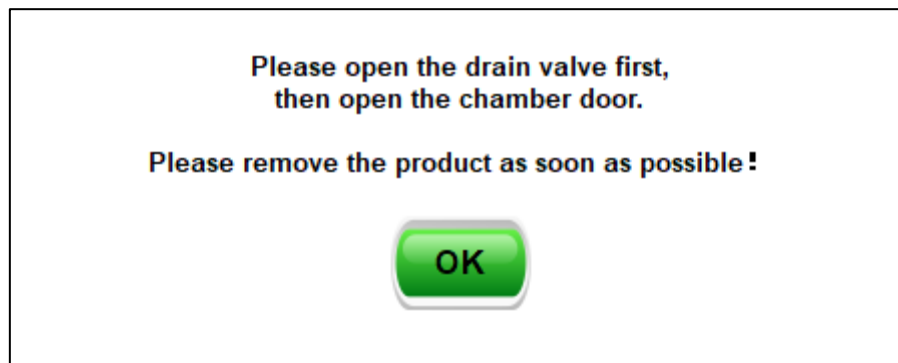

Figure 24
- When the processing step indicates “Product Storage” (Figure 23), the Program freeze-drying process is finished. **Open the drain valve and wait for the chamber pressure to return to normal before opening the chamber door** to retrieve the product (Figure 24).